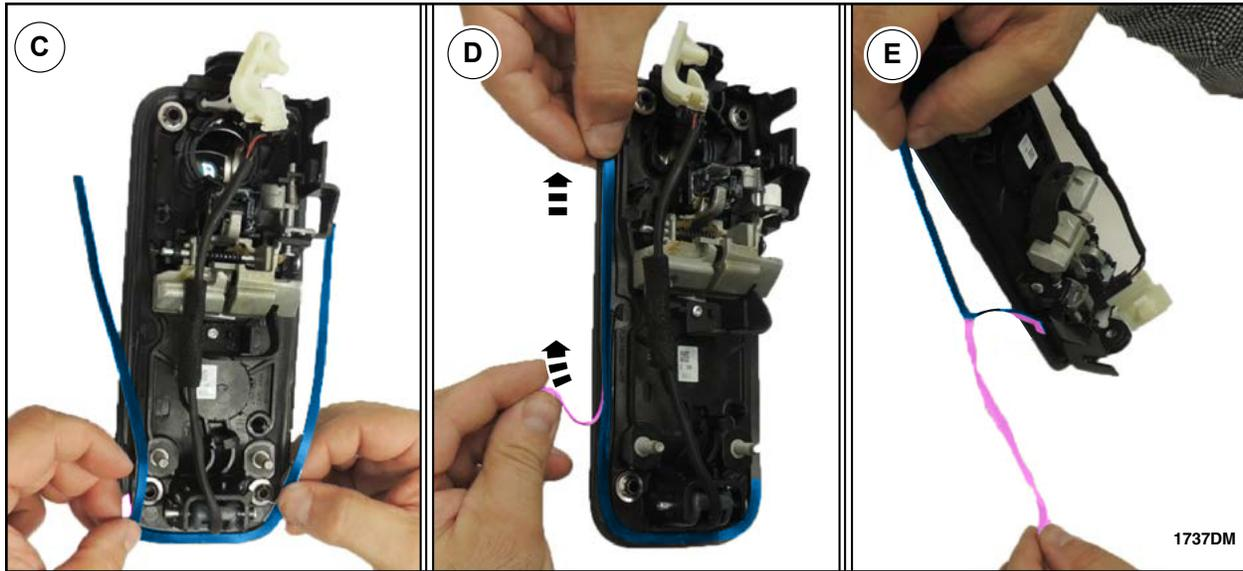

FIGURE 15
- C. Align the marks made on the Foam E and exterior door handle and adhere the back center portion to the exterior door handle as shown in Figure 15.
- D. Lay one side of Foam E down on the exterior door handle and without stretching the foam pull off the adhesive backing as you adhere Foam E to the exterior door handle as shown in Figure 15.
- E. Remove the protective backing from the other side of Foam E as shown in Figure 15.